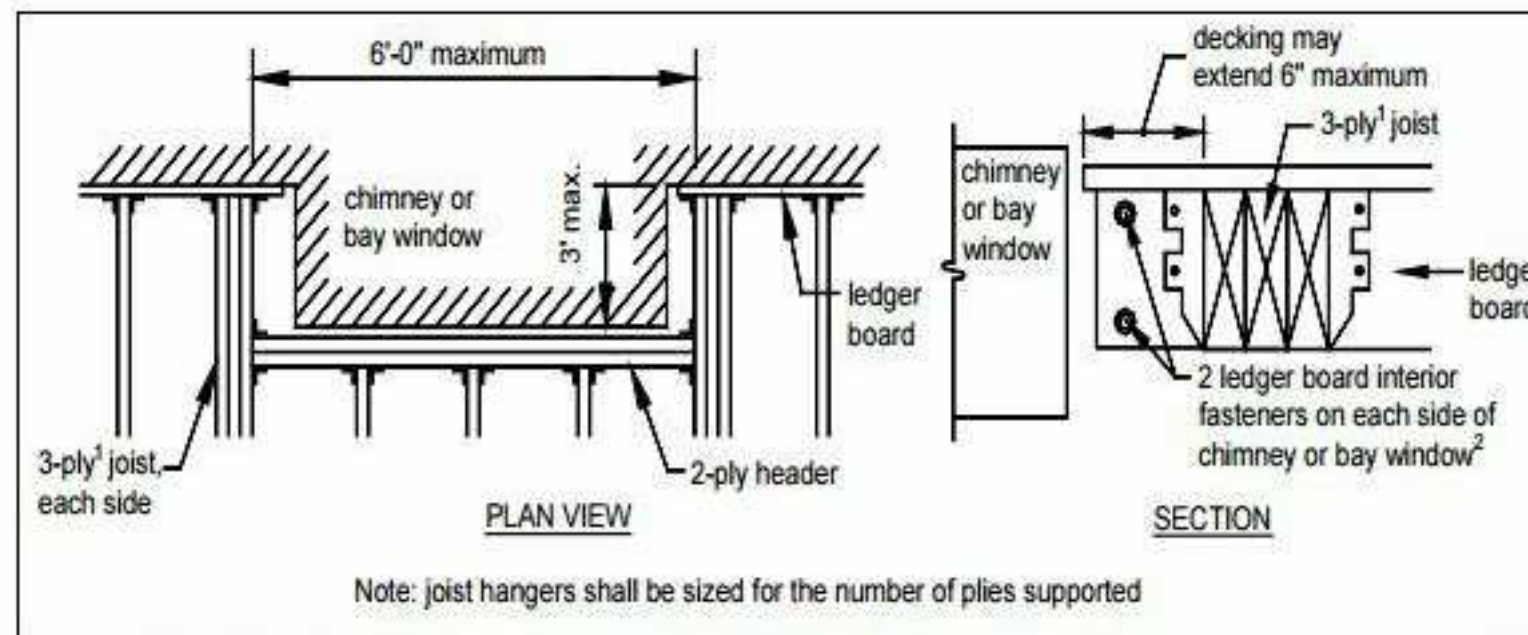

FIGURE 21: REQUIREMENTS FOR FRAMING AT CHIMNEY OR BAY WINDOW
All framing at a chimney or bay shall be constructed in accordance with FIGURE 21 and the requirements below.
- Joist hangers shall be specifically designed to accommodate the number of members identified in FIGURE 21.